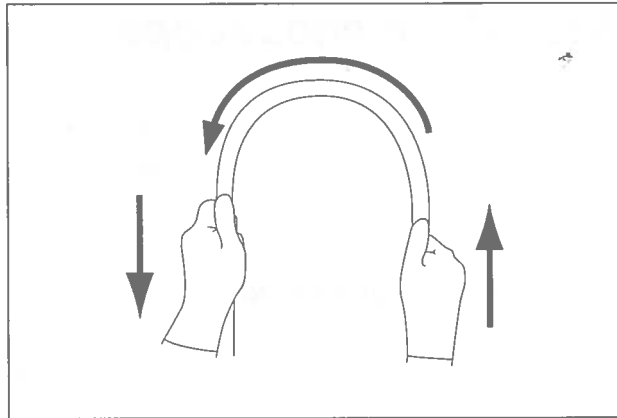

Figure 3.3
5. Using both hands, bend the insertion tube of the endoscope into a semicircle. Then, moving your hands as shown by the arrows, confirm that the entire insertion tube can be smoothly bent to form a semicircle (see Figure 3.3).